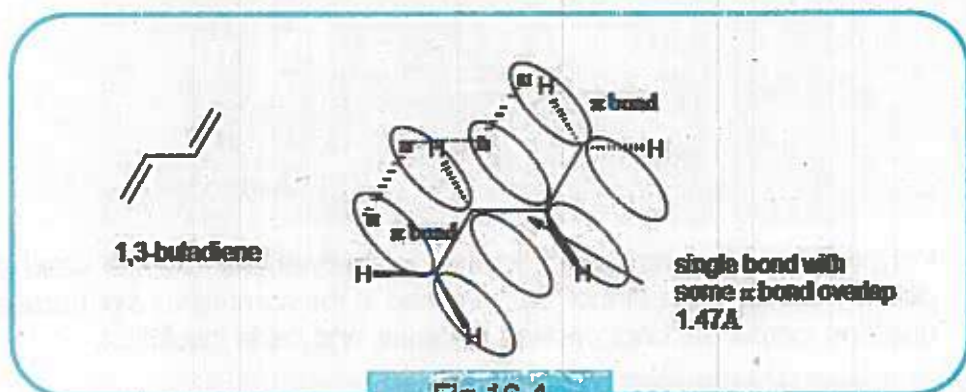

Fig 16.4
Each of the four carbon atom also possess an unhybridized p-orbital, which are perpendicular to the plane of σ -bonds. The p-orbitals of the second and third carbon atoms can overlap on either side. Thus all four p-orbitals overlap to form a large π molecular orbital (MO) (Fig 16.4). Each pair of π electrons is thus attracted not by two, but all four carbons. We can say that the π electrons are delocalized. The delocalization of π electrons is responsible for greater stability of 1,3-butadiene. The C–C single bonds in 1,3-butadiene are shorter (1.48 Å) than the normal